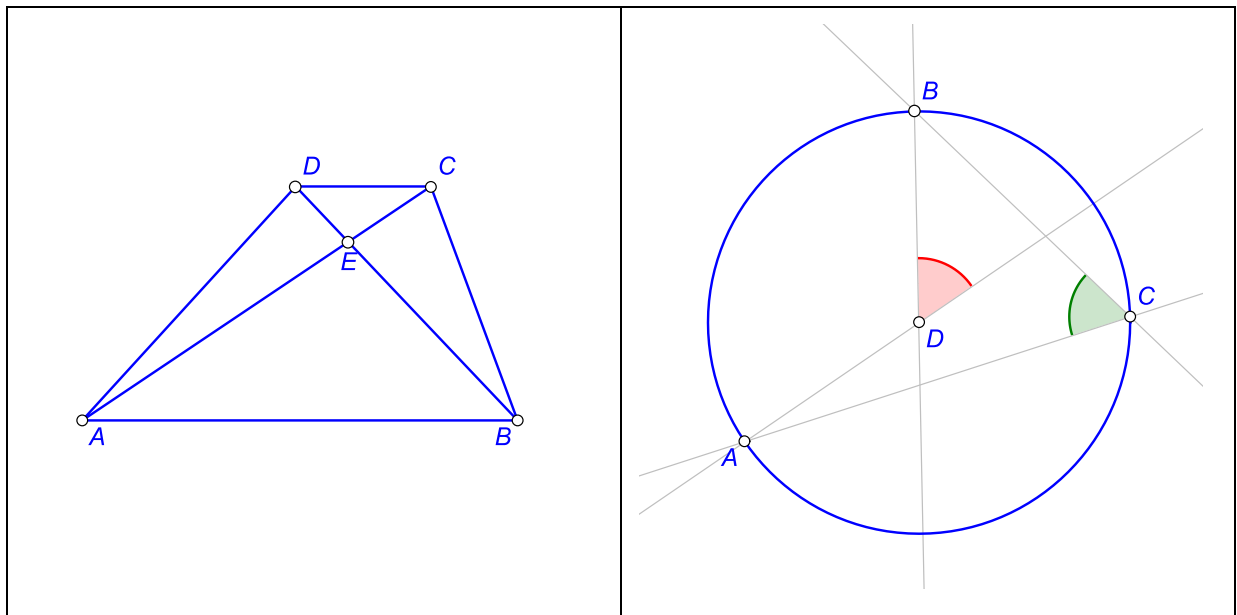

Figure 5
- **OK Geometry considers only acute and right angles between lines.** OK Geometry usually observes something about *certain angles or their supplementary angles*. The user has to find out if an angle and or its supplementary angle must be considered. In Figure 5 (right)², for example, with reference to $\angle C$ and $\angle D$ - the ratio 1 : 2 is observed between the two 'angles or their supplementary angles'. Obviously, in this case the supplement of the shown $\angle D$ measures twice as the shown $\angle C$.
- **OK Geometry does not list trivial congruence of angles (angles related to pairs of parallel lines, angles formed by two intersecting lines)**, because each pair of parallel lines would produce an immense number of congruent angles. Therefore, when considering the observed properties one should check if parallel lines exist and be aware of the congruence of angles defined by parallel lines and transversal lines. In the trapezium (Figure 5, left)³, for example, OK Geometry does not list the fact that the angles $\angle DEA$ and $\angle BEC$ or $\angle DCA$ and $\angle CAB$ are congruent.